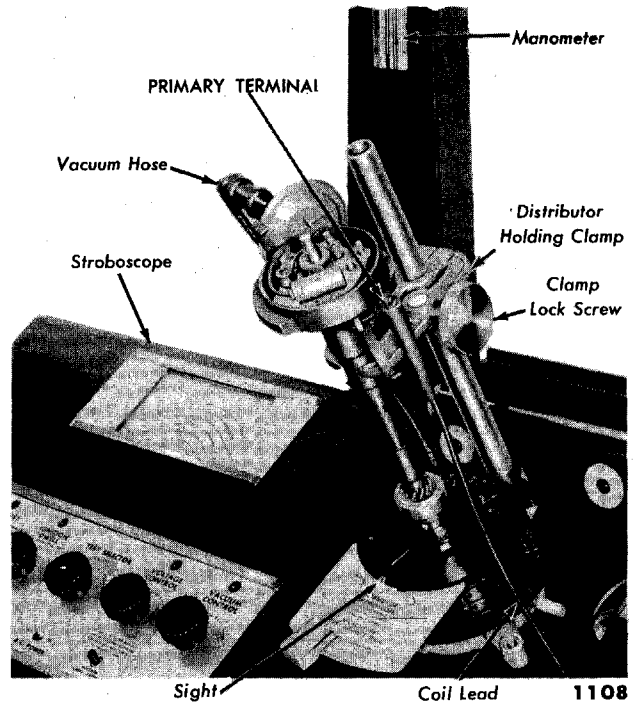

Fig. 16—Distributor Installed on Stroboscope
(2) **CHECK VACUUM ADVANCE.** Install the distributor on the stroboscope as shown in fig. 16.